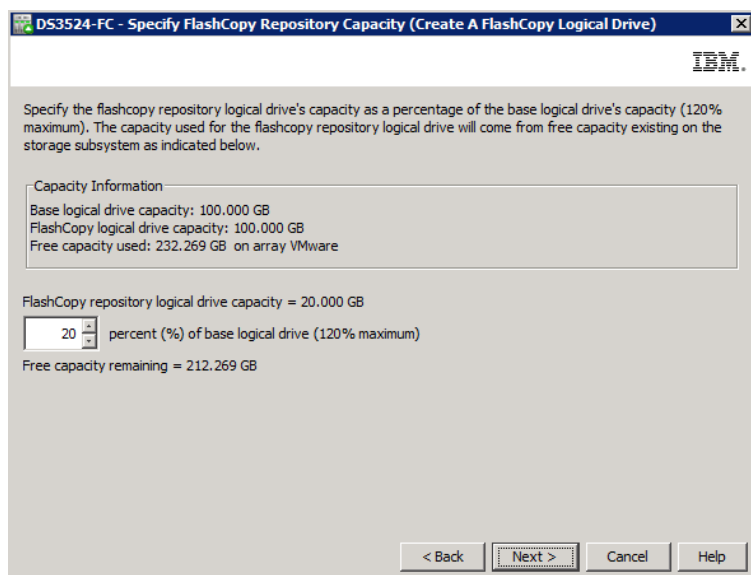

Figure 2-8 Specify Repository Logical Drive Capacity: Percent value
- b. The Specify Repository Logical Drive Capacity window opens, as shown in Figure 2-8. Set the repository drive capacity as a percentage of the base logical drive's capacity. This value defaults to 20%.